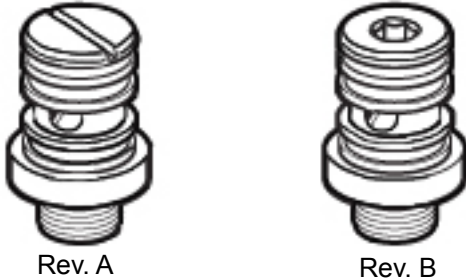

Figure 5 - Rev. A & Rev. B identification
4. Apply external circlip pliers (PN 111100) to the retaining ring (20) which holds the IP hose (19) in place. Spread the retaining ring and remove from the IP port swivel (17). Discard the retaining ring and do not attempt to reuse.
**NOTE:** If the port swivel is a Rev. A part (PN 100612), it is important to discard it and install the SRU40A/P retrofit kit (PN 100699), which includes a Rev. B port swivel (PN 102812). (See Figure 5).